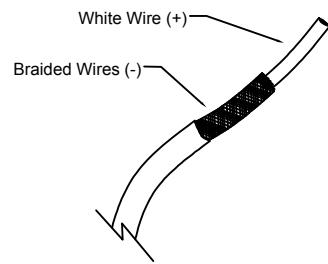

FIGURE-02
3. Strip the coaxial cable about 2", exposing 2 wires (braided wire & white wire). See FIGURE-02.